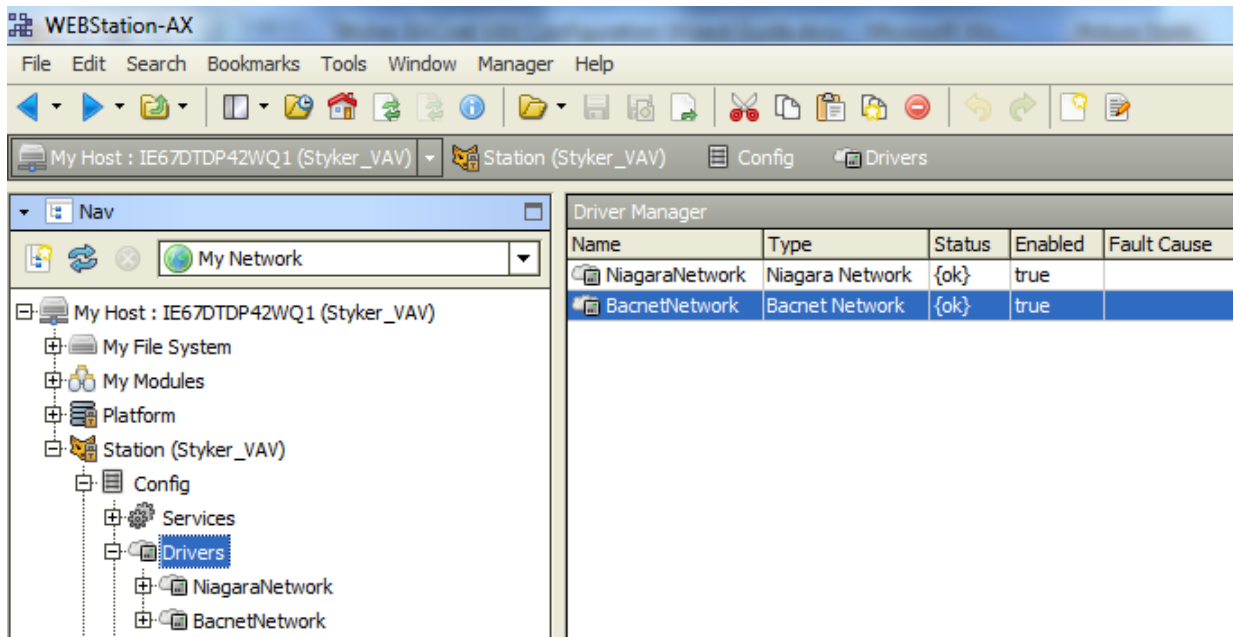

Figure 23: Newly added BACnet Network
- A newly added 'Bacnet Network' can be seen under 'Driver manager' on the right pane highlighted in Amber color as shown in Figure 23.